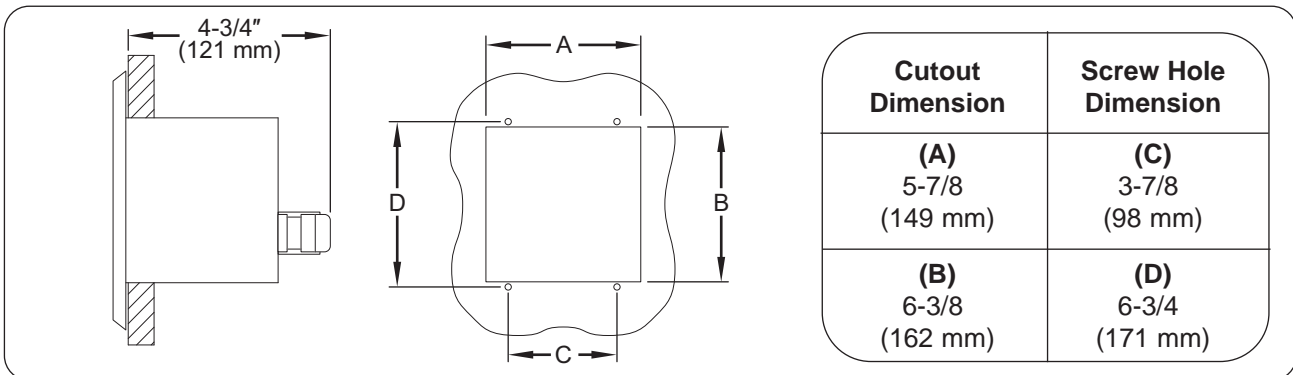

Figure 16. Remote Mounted Control Panel Installation Dimensions
1. Prepare cutout and pre-drill screw holes (see Figure 16).